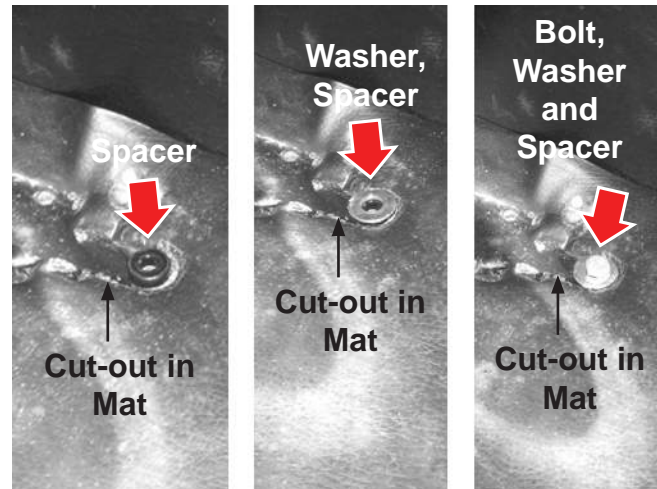

Figure 4-2
2. Place one spacer (A5200041-001) concentric with one of the mounting holes (see Figure 4-2).
3. Place one 1" (guide) washer (GE811637WB01) over the spacer (see Figure 4-2).
4. Clamp the spacer and washer down using one bolt (GM410108AD16) (see Figure 4-2).